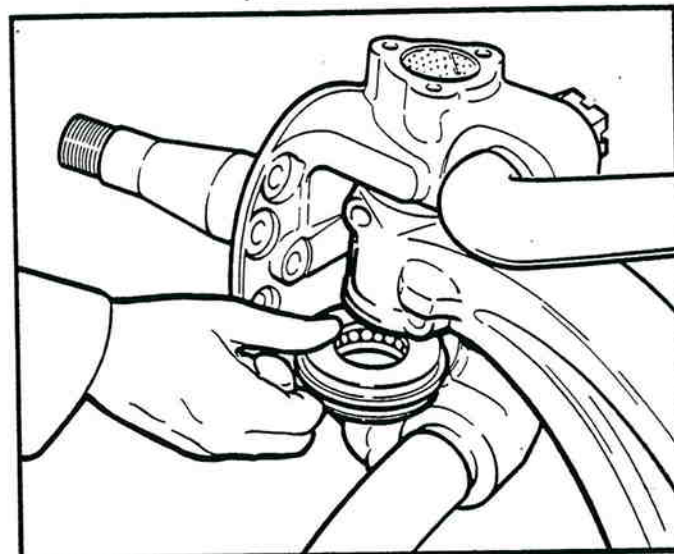

Figure 1-20. Installing Knuckle And Seal Assembly.
2A. Thrust Bearings With Seals — With the seal positioned on top of the thrust bearing, slide the bearing and seal assembly between the lower face of the axle center and the upper face of the knuckle yoke. See figure 1-20.
**NOTE:** The thrust bearing must be seated on the upper face of the lower knuckle yoke. The seal must cover the opening between the bearing cage and retainer. Always install the bearing and seal assembly in the axle with the seal on top. See figure 1-20.